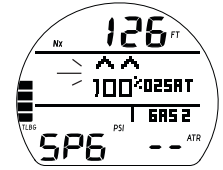

Fig. 63 - O2 ALARM (No Deco, until on surface)
If O2 reaches the Alarm level; the Audible will sound again during which (2) Up Arrows and the O2 value 100 with graphic %O2SAT will flash until on the surface (Fig. 63).